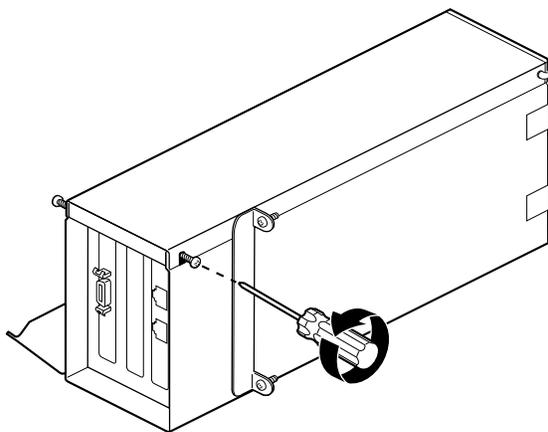

Figure 2-10 Loosening the Screws From the PCI Module
1. To begin installing PCI cards, turn the PCI module as shown in Figure 2-10.